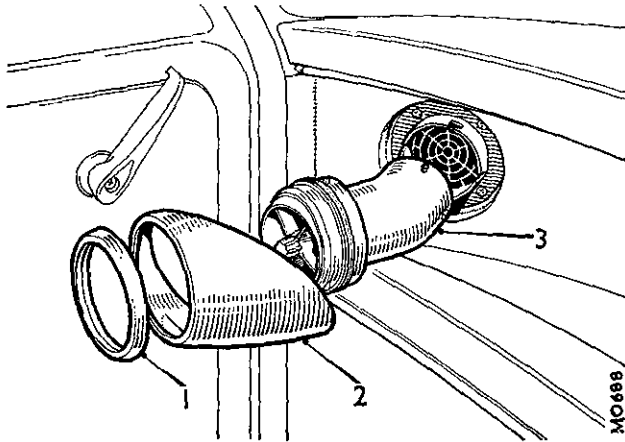

Fig. Rb.2
- (1) Unscrew the louvre moulding retaining ring and remove the moulding (Fig. Rb.2). Turn the ventilation louvre anti-clockwise and withdraw it.